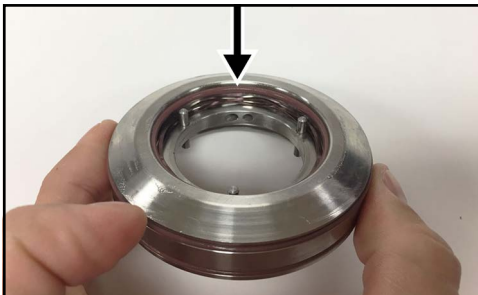

Figure 73 - Carrier-to-seal O-ring installed
4. Figure 73 shows the carrier-to-seal O-ring installed in the product side of the seal carrier.